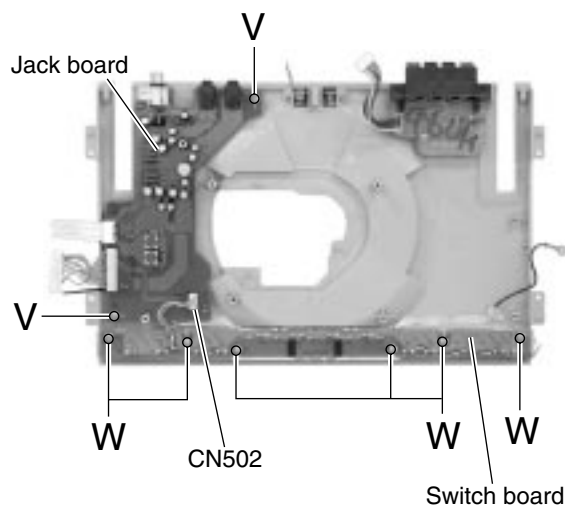

Fig.39
■Removing the jack board (See Fig.39)
■Removing the switch board (See Fig.39)